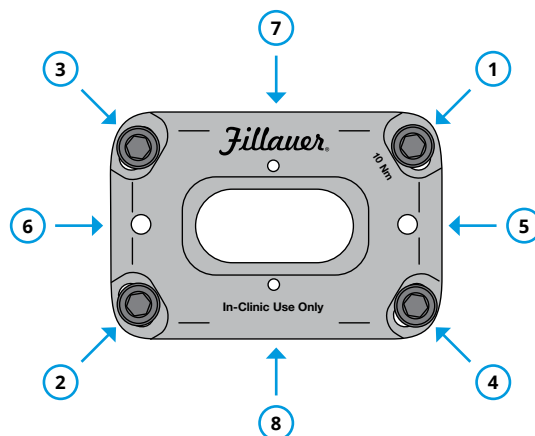

Figure 2
3. Attach the Adjustable Alignment Bracket to the Transfer Fixture by placing two M6 socket head screws through the slots in the Transfer fixture into the threaded holes 5 & 6 (Figure 2) in the Adjustable Alignment Bracket and tighten to prevent movement.
5. After the plaster is set, remove the socket from the foot by removing only socket head screws 1 - 4 in Figure 2. This will leave the surface of the foot exposed for direct bonding to the socket or transfer to a two-hole
1. When transferring to a two-hole bracket, use the pilot holes 7 & 8 (Figure 2) in the Adjustable Alignment Bracket to mark the foot for the ½ in. holes.